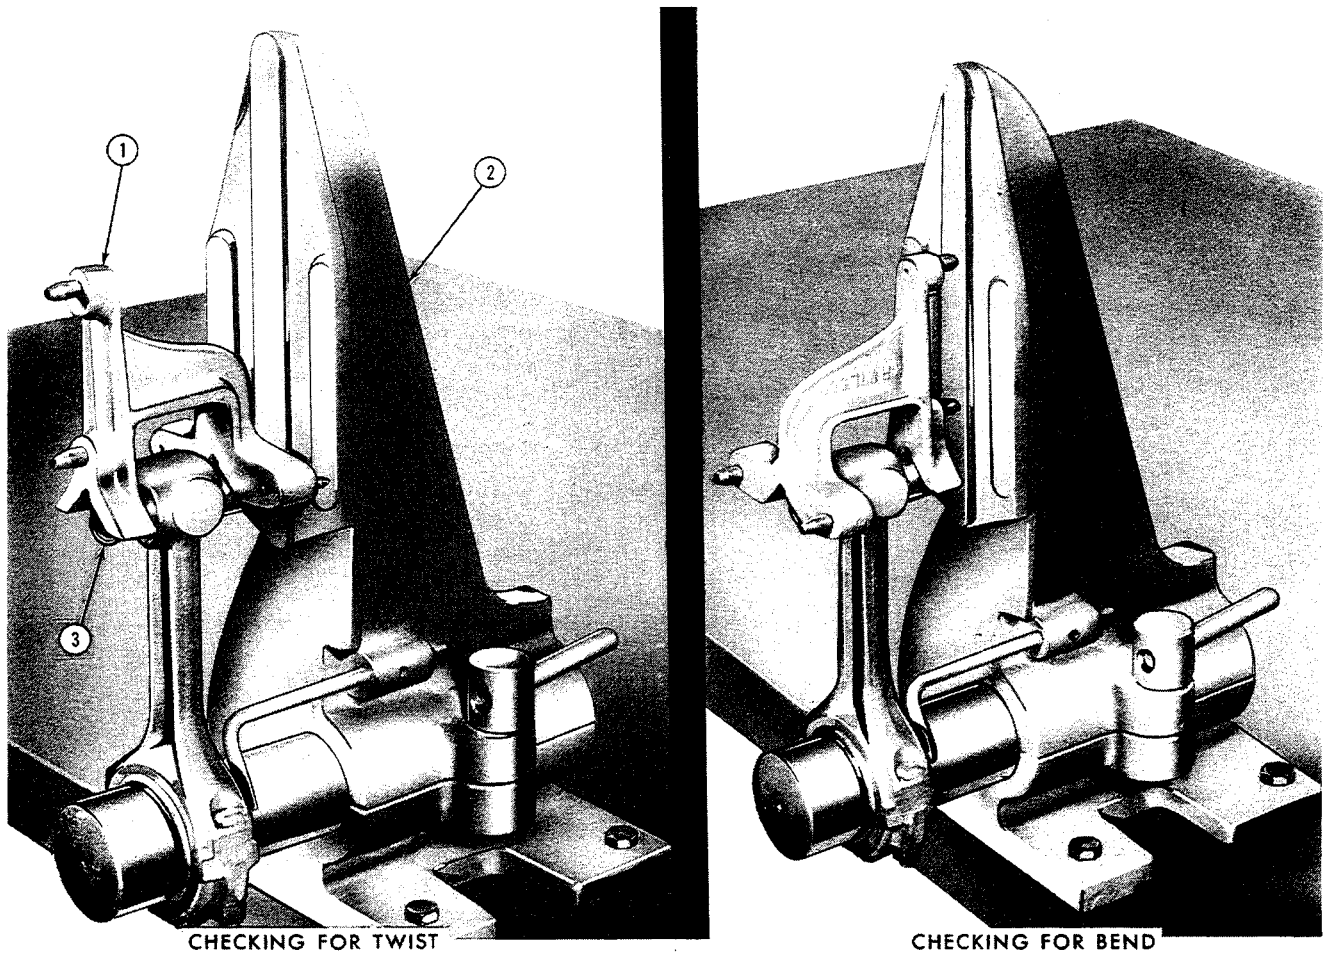

Figure 47
1. Place each connecting rod in an alignment fixture, as shown in Figure 47.